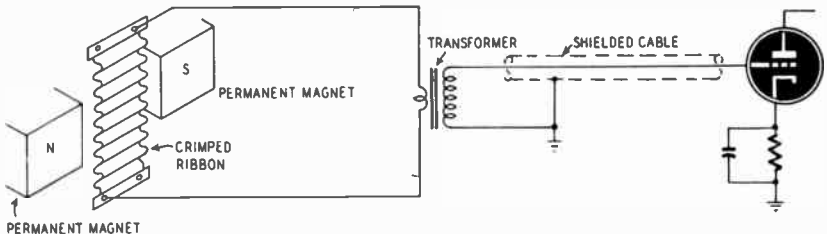

Fig. 202—Ribbon microphone and microphone input transformer.
**RIBBON OR VELOCITY MICROPHONES.** Ribbon or velocity microphones take their name from a crimped metallic ribbon, suspended between the poles of a powerful permanent magnet. See Fig 202.